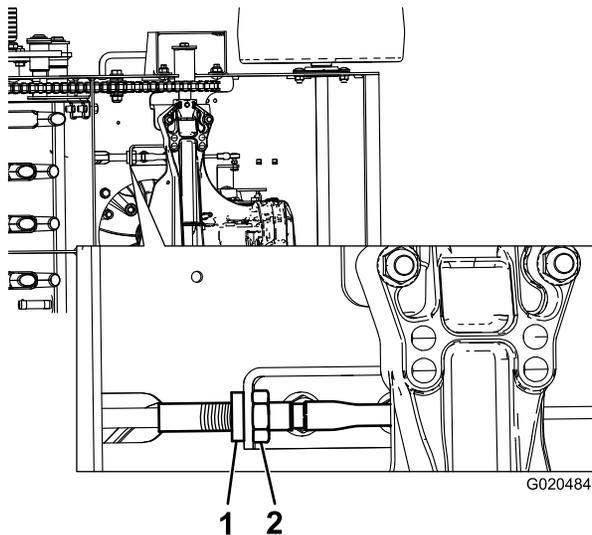

Figure 30
2. Adjust the traction drive cable at the lower anchor by moving the nut to the end of the thread and tightening the jam nut (Figure 30).